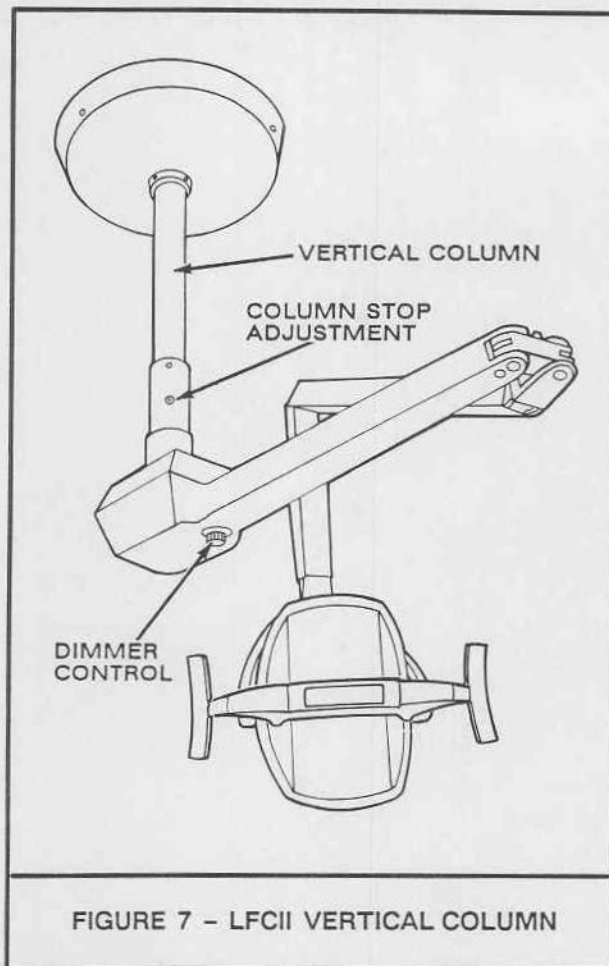

FIGURE 7 - LFCII VERTICAL COLUMN
**1.15 Vertical Column (Figure 7)**—The column length and associated power cable determine height of light and are the only two variable factors with different ceiling heights. If light is moved to new office with different ceiling height, a new column and associated power cable may be purchased to easily modify the light.
**1.16 Column Stop (Figure 7)**—The entire arm and light may be rotated approximately 322° with respect to the column. Location of the column stop may be varied to provide optimum operating positions. For adjustment procedure, refer to the Light Fantastic Installation and Adjustment instructions, YL3-096035.
**1.17 Dimmer Control (Figure 7)**—The dimmer control is located on back of the rear arm. It can be adjusted to three levels of intensity. The LO, MED and HI settings provide approximately